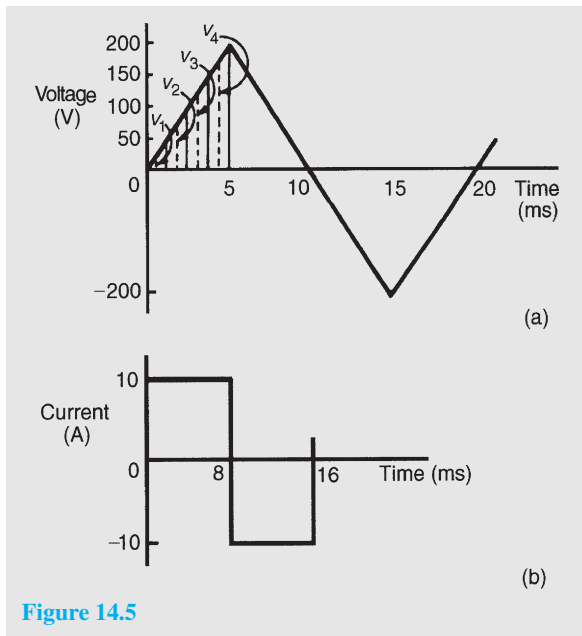

Figure 14.5
Problem 4. For the periodic waveforms shown in Fig. 14.5 determine for each: (i) frequency, (ii) average value over half a cycle, (iii) r.m.s. value, (iv) form factor and (v) peak factor.
(a) **Triangular waveform** (Fig. 14.5(a)).
- (iii) In Fig. 14.5(a), the first 1/4 cycle is divided into 4 intervals. Thus
(b) **Rectangular waveform** (Fig. 14.5(b)).